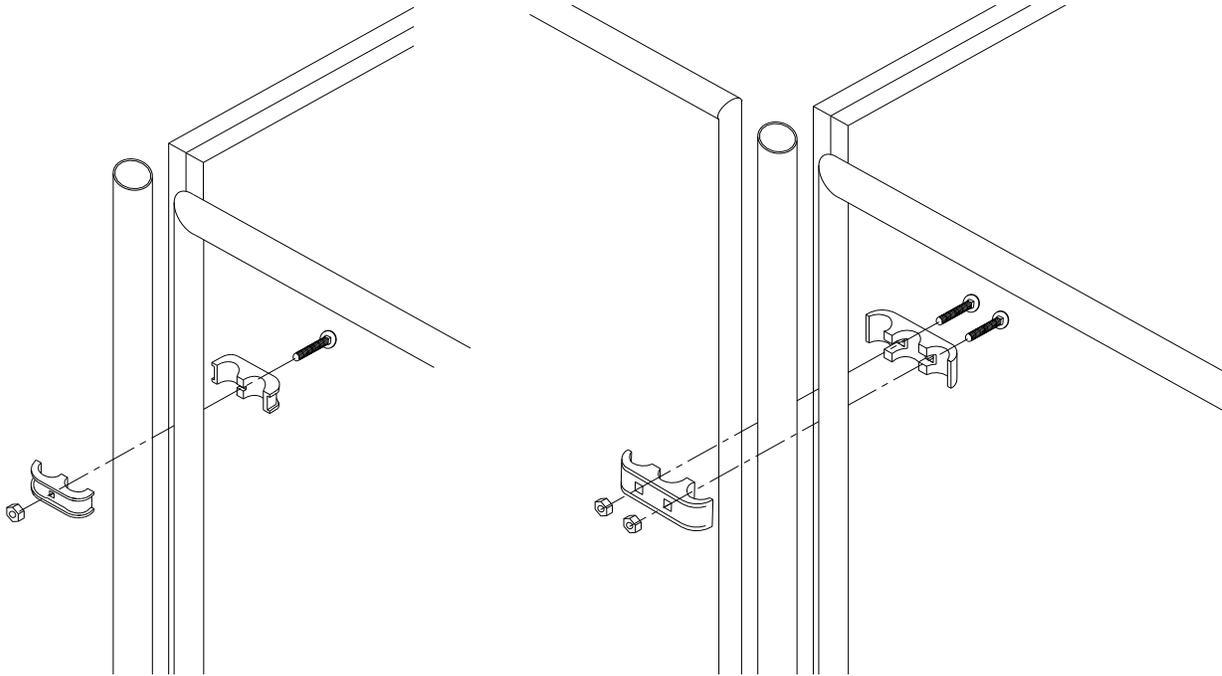

Figure 11
2. Attach the gate/stall front on the front of each run between the filler pipes with two clamps on each side using the 5/16" x 1-1/2" bolts and nuts provided as shown in Figure 11. Note: It takes two halves to make up one clamp. Attach gates/stall fronts to outside division panels using "panel clamps". All other gates/stall fronts will use "triple clamps". **To help ensure the safety of the animals the round head of the bolt should be assembled toward the inside of the run.** Note: The triple clamps attach two gates/stall fronts together. Therefore, you will have to hang two gates/stall fronts at the same time (see Figure 12).